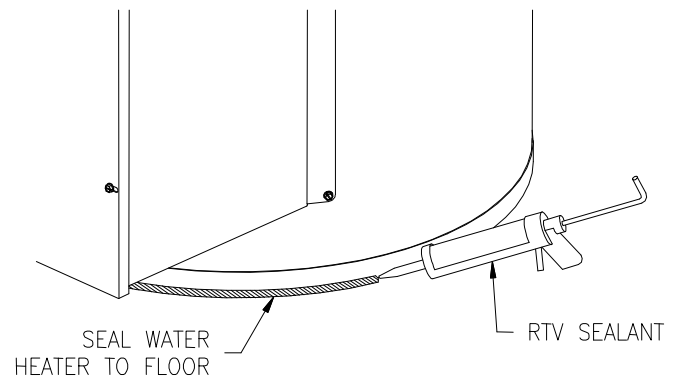

Figure 2
- Seal water heater to floor using RTV sealant. Be sure to seal water heater completely to floor without leaving voids (**see Figure 2**).